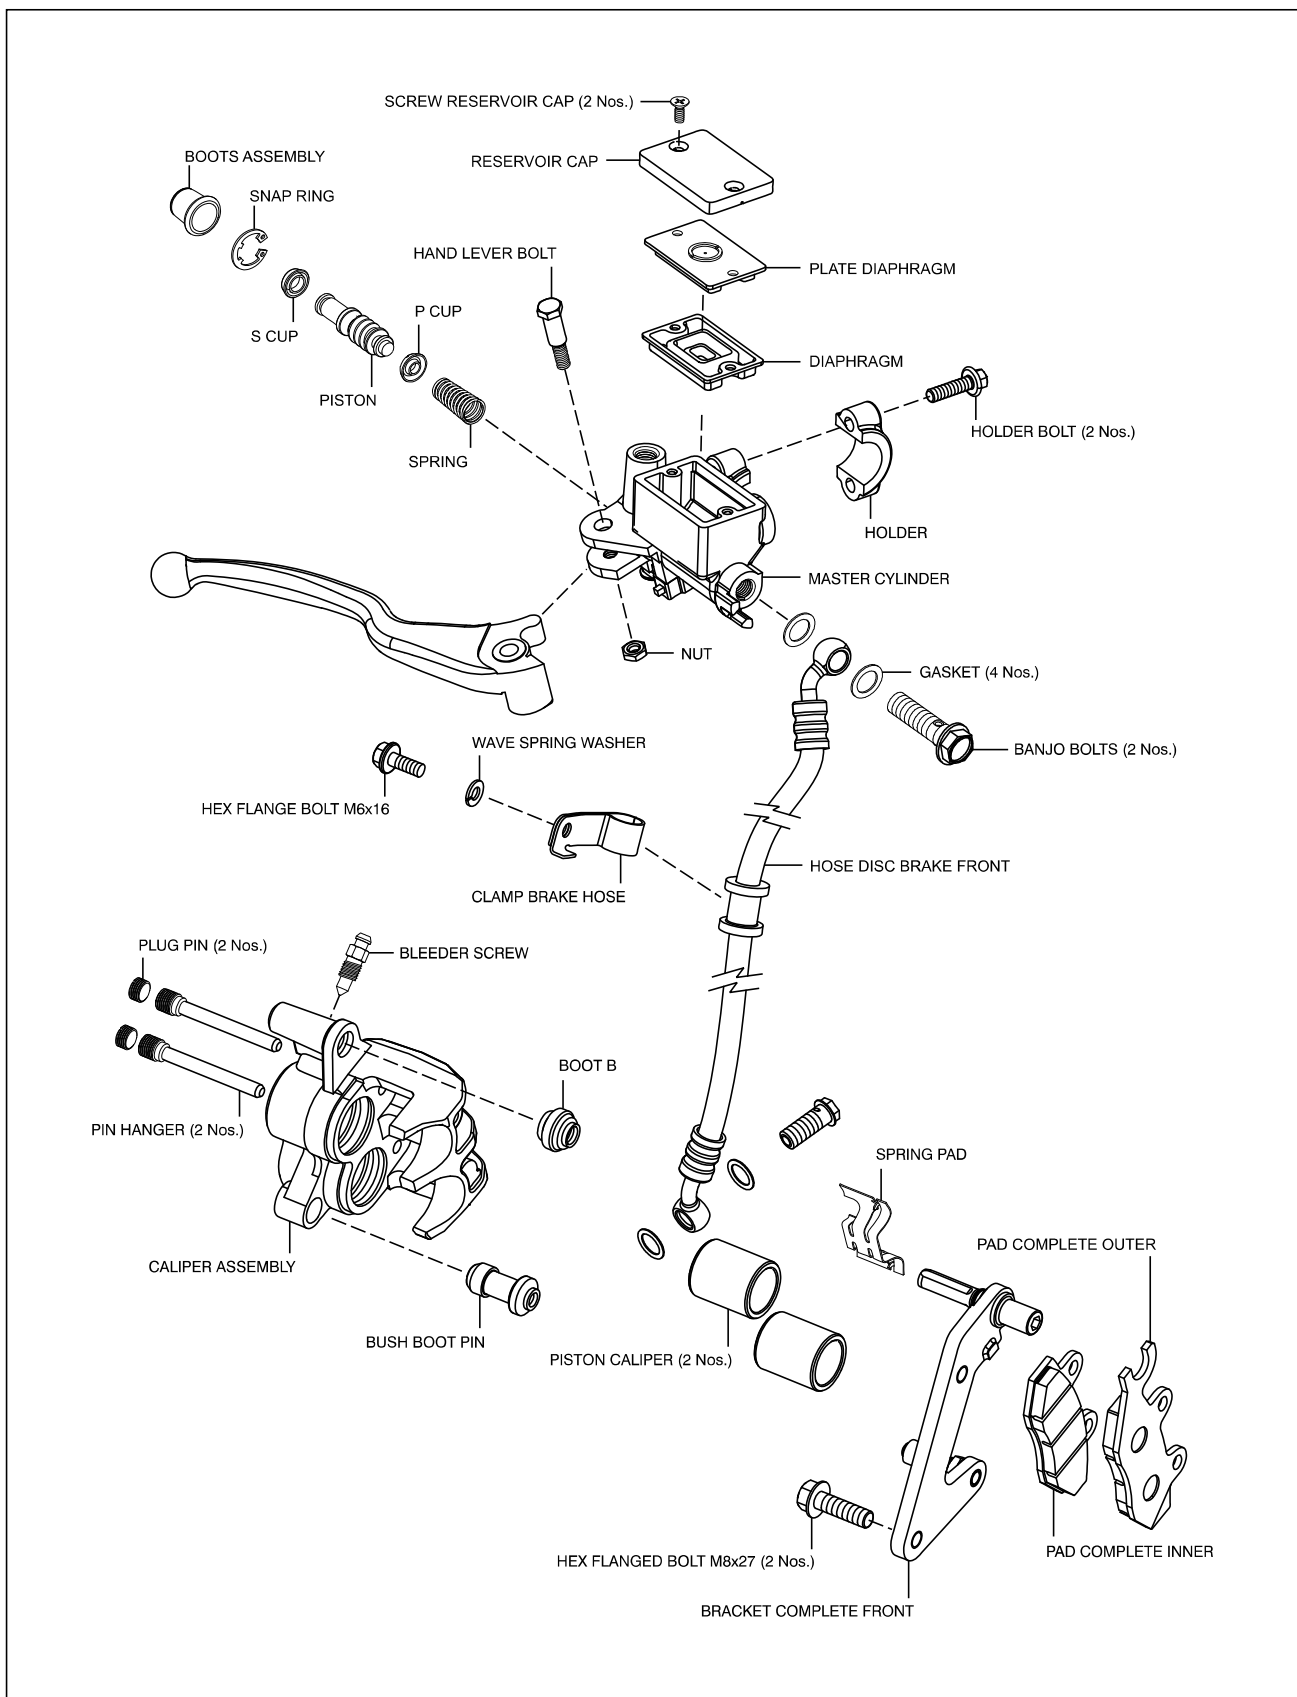

Fig. 6.43
- Reassemble the master cylinder in the reverse order of dismantling. Refer (Fig. 6.43) for assembly details.